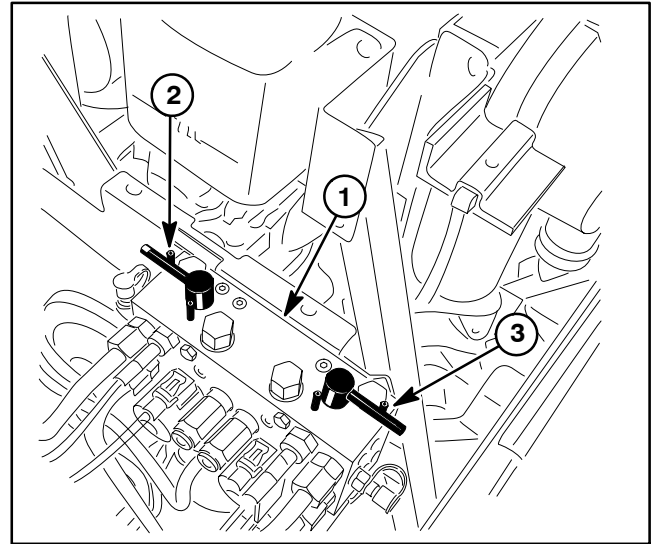

Figure 22
3. Raise seat, locate hydraulic mow control manifold and rotate directional valve lever fully to the R (backlap) position (Fig. 22). Rotate flow control valve knob to position 1.